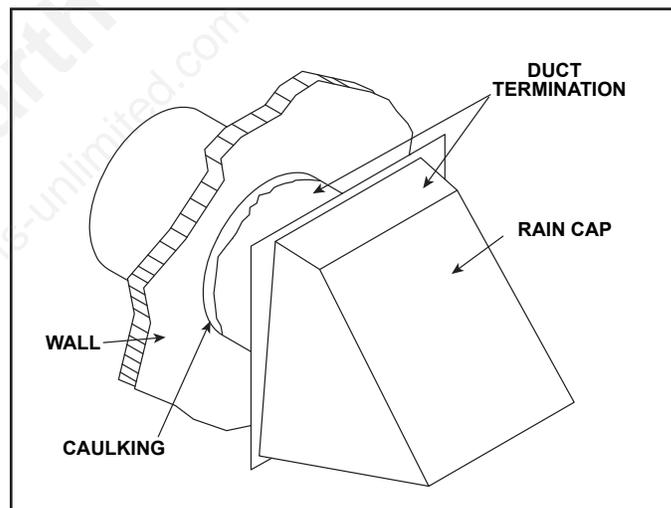

Figure 3. Termination Rain Cap
2. Attach the side collar with four (4) screws to the side or bottom of the fireplace. Slide the duct over the collar and attach the duct to the collar using the plastic tie straps or three (3) screws (screws not provided). Continue attaching the ducting together using three (3) screws at each joint until you have installed sufficient duct to arrive at the duct termination location.
3. Install the duct termination from the outside of the home and cover it with the rain cap. Cut a hole in the desired location approximately 4 1/2 inches in diameter, caulk around the hole, and slide the termination through the opening from outside the home. The termination/rain cap should be caulked around its perimeter to assure a tight seal. The rain cap opening should be positioned downward. See Figure 3.